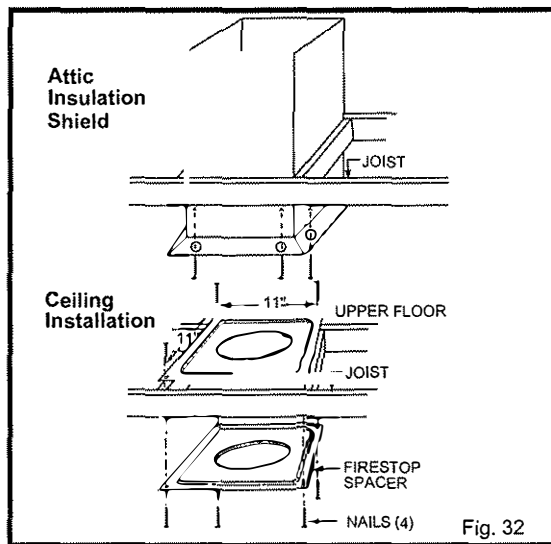

Fig. 32
5. Place firestop(s) 7DVFS into position and secure. (Fig. 32)
Fig. 32 If there is a room above ceiling level, firestop spacer must be installed on both the bottom and the top side of the ceiling joists. If an attic is above ceiling level a 7DVAIS (Attic Insulation Shield) must be installed.